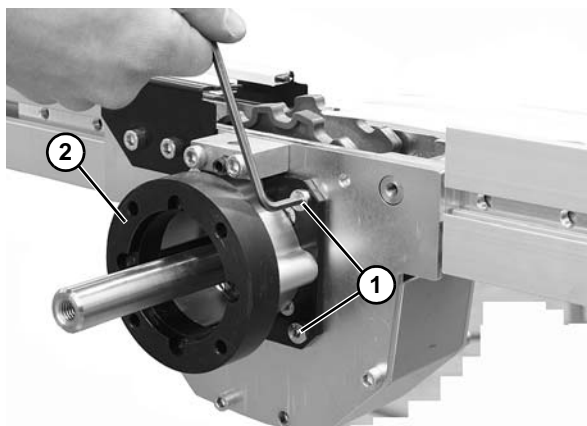

Figure 142
7. Remove four hex head cap screws (Figure 142, item 1) and remove drive motor mounting plate (Figure 142, item 2).